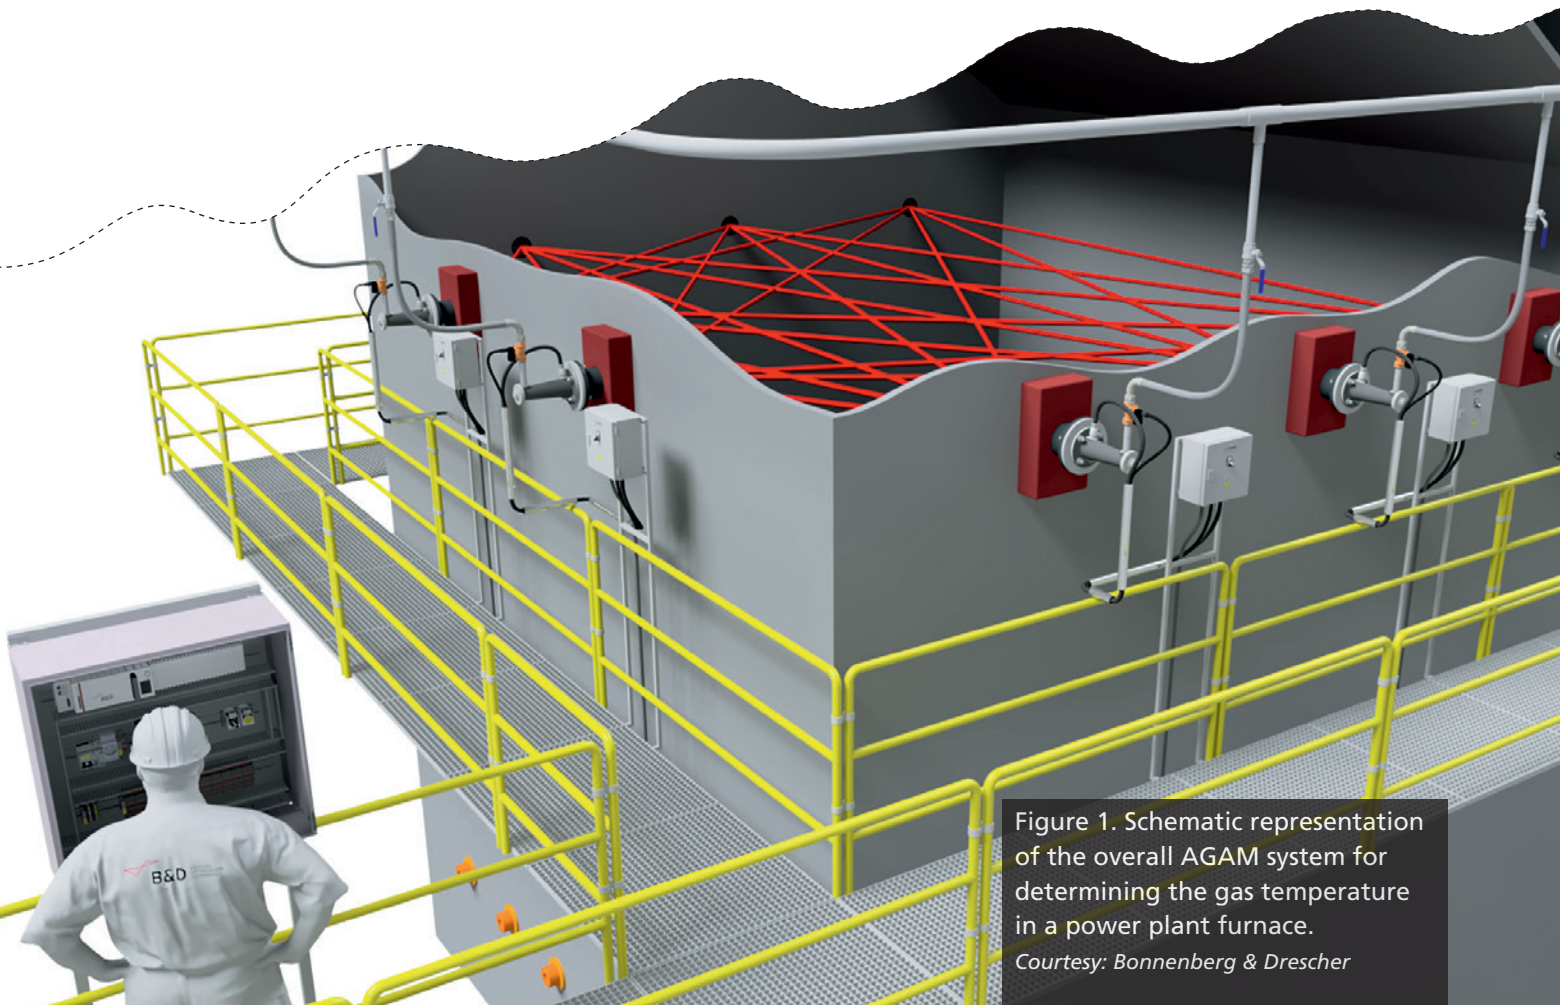

Figure 1. Schematic representation of the overall AGAM system for determining the gas temperature in a power plant furnace.
**H**ighly complex plants in energy, steel, and other industries place high standards on measurement and analysis technologies. These demands include not only fast and precise data acquisition, but also a system design that is as flexible, expandable, cost-effective, and space-saving as possible. This is why Bonnenberg & Drescher GmbH relies on PC-based automation and measurement technology from Beckhoff for its acoustic gas temperature measurement (AGAM) system (figure 1).